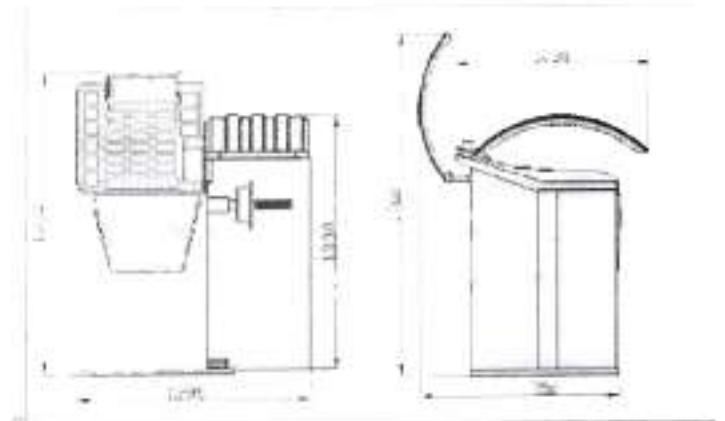

Figure 3
- Space for installing is big enough to meet the needs in figures 3 and 4 and ensures each part of the machine to work normally.